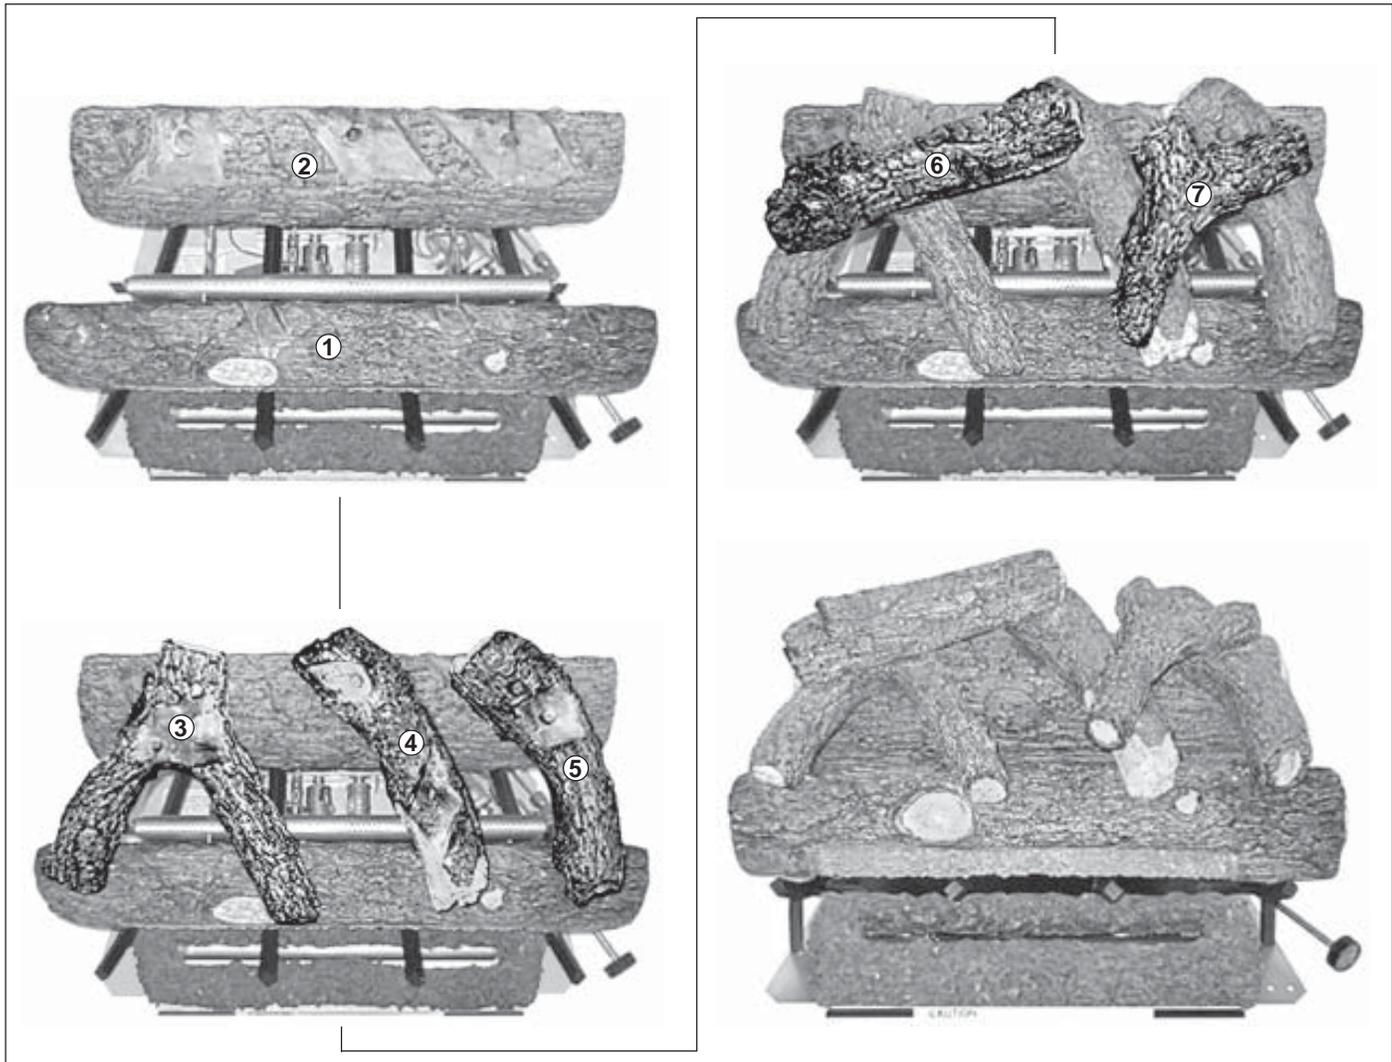

Figure 17
5. Position the intermediate logs #3, #4 and #5 on top of the bottom logs. Locate the logs so that the pins in the rear bottom of each log fit into the holes in the bottom rear log, and the front end of each log rests on the corresponding slots on the bottom front log (see Figure 17).
6. Position the two top logs #6 & #7 on the top of the intermediate logs. Locate the top logs by fitting the holes in the bottom of each log with the pins of the intermediate logs. Place the other end of the top logs into the slots of the intermediate logs (see Figure 17).